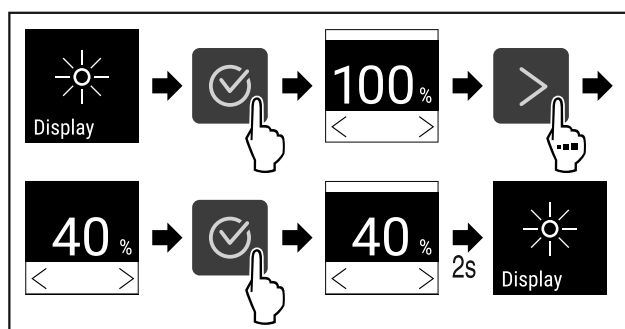

Fig. 78
- ▶ Complete the steps (see Fig. 78) .